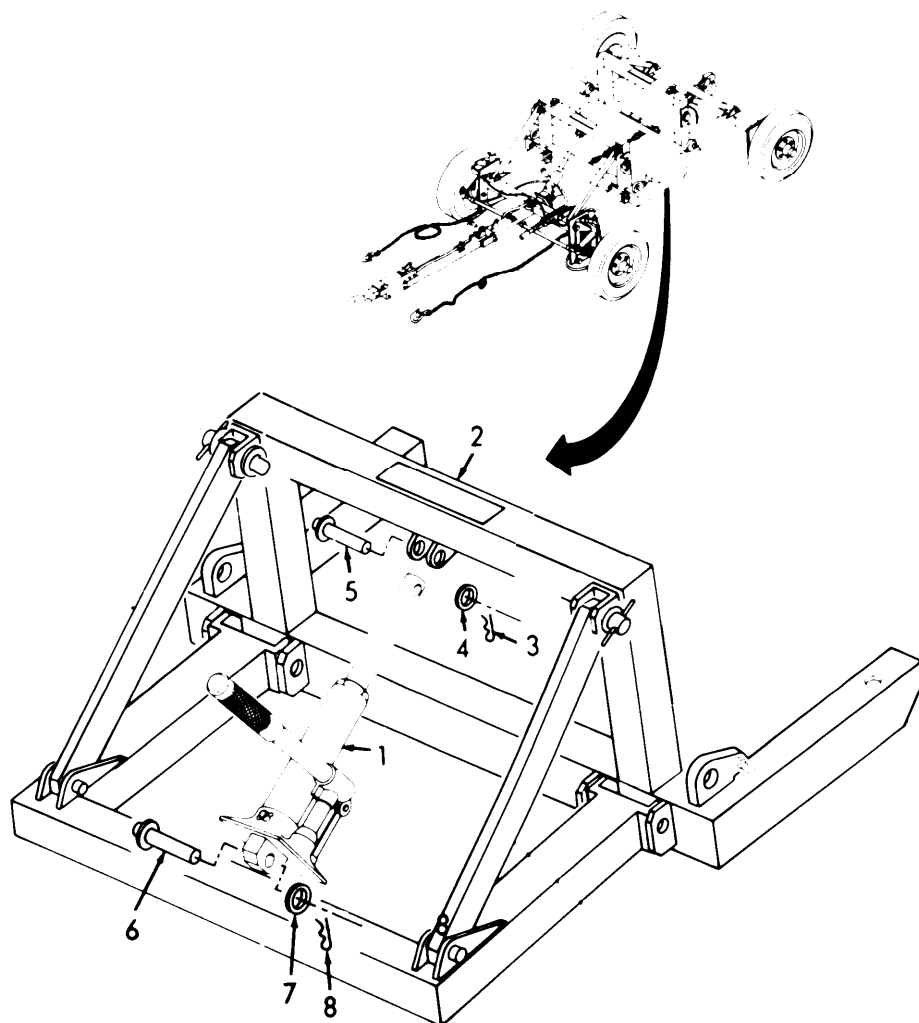

Figure 3-17. Hydraulic Jack, Installation.
- (1) Aline hole in hydraulic jack (1, Figure 3-17) with hole in suspension frame (2).
- (2) Install pin (5), washer (4), and cotter pin (3).
- (3) Install pin (6), washer (7), and cotter pin (8).